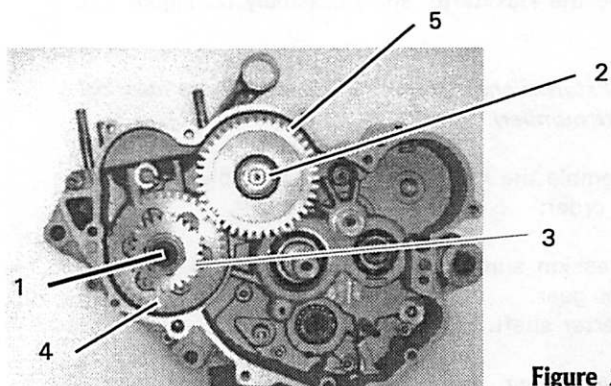

Figure 27
1. Loosen the crankshaft nut (1, Figure 27).
2. Loosen the balancer shaft nut (2, Figure 27).
4. Remove the primary drive gear (3, Figure 27), balancer drive gear (4, Figure 27) and Woodruff key from the end of the crankshaft.
5. Remove the balancer driven gear (5, Figure 27) and Woodruff key from the end of the balancer shaft.